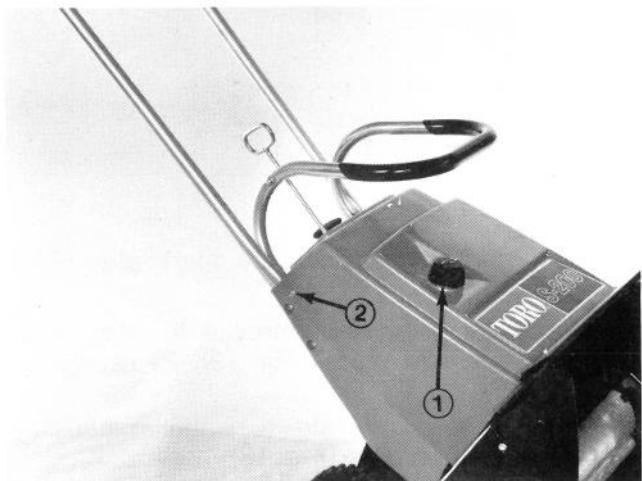

Figure 19
2. Remove cap from snowblower fuel tank (Fig. 19).
3. Remove two self tapping screws holding sides of upper shroud; then remove shroud (Fig. 19). Reinstall cap on snowblower fuel tank.
8. Remove cap from snowblower fuel tank and set upper shroud in place (Fig. 19). Reinstall cap on fuel tank.
10. Insert front panel into grooves of upper shroud. Secure sides of upper shroud with two 12.7 mm long self tapping screws (Fig. 19).